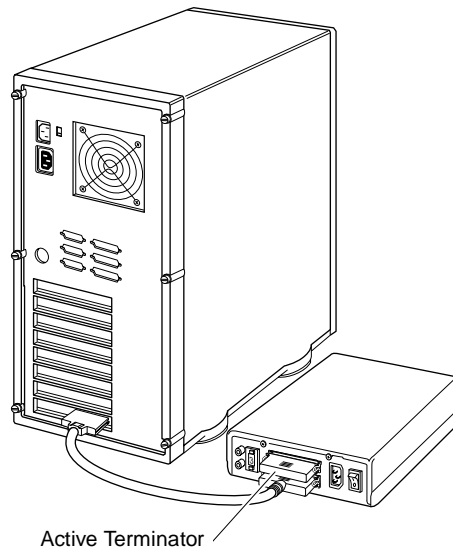

Figure 2-7. Attaching a Single External Device
- 3** Attach the connector at the other end of the cable to either one of the SCSI connectors on the external SCSI device, as shown in Figure 2-7. (If you are installing only one external device, attach an active terminator to the device.)
On most internal SCSI devices the termination setting is controlled by setting a jumper or a switch, or by physically removing or installing resistor modules. On most external SCSI devices, termination is controlled by installing or removing a terminating plug (see Figures 2-7 and 2-8). Read the device's documentation to determine how to enable or disable termination on your particular SCSI device.